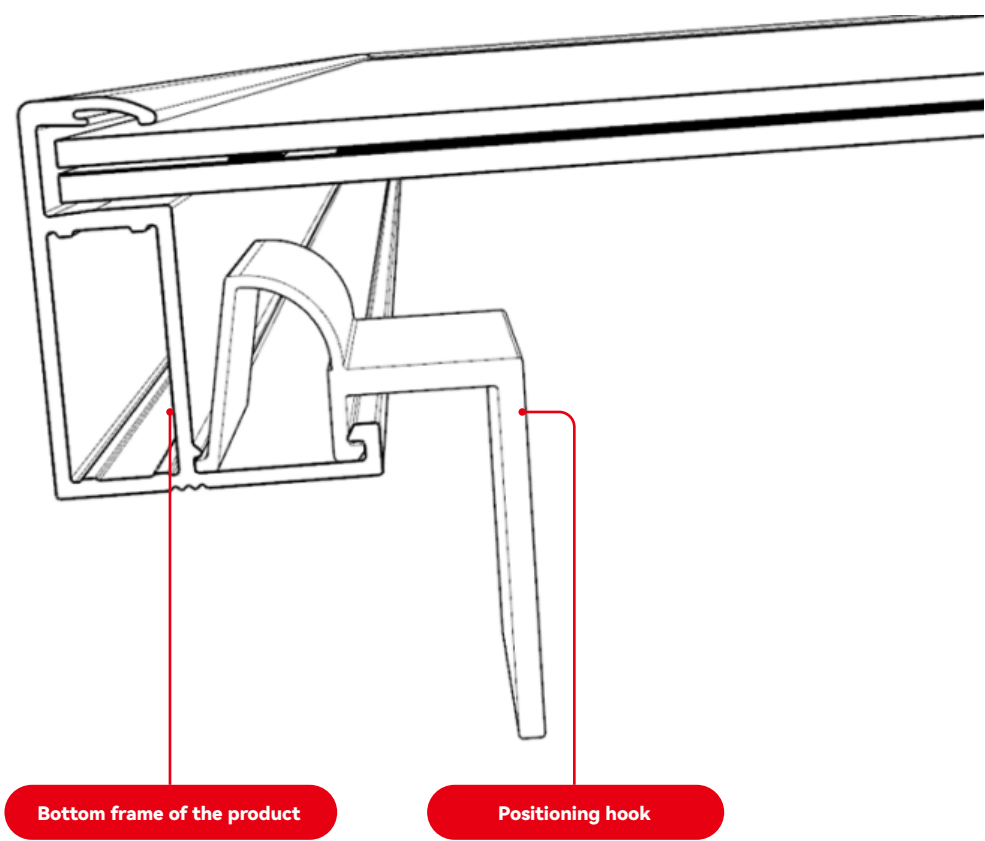
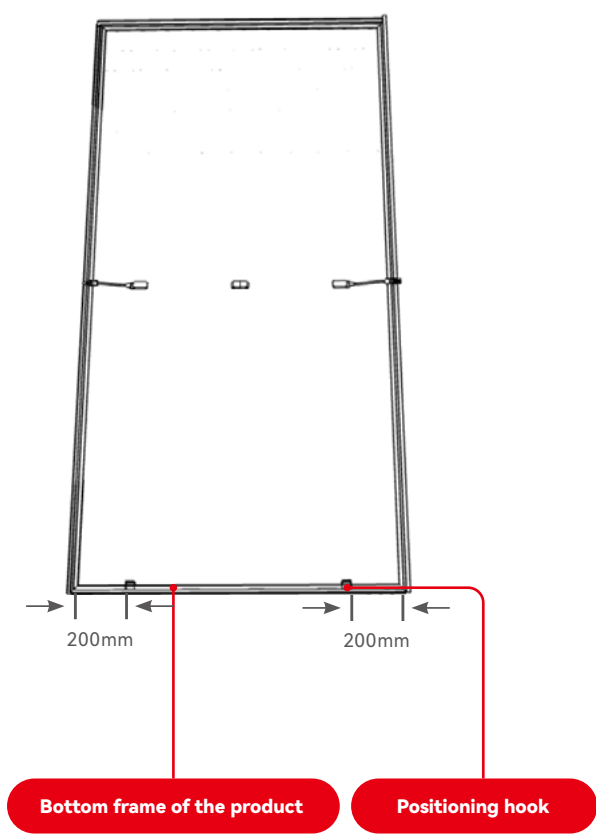

FIGURE 23
FIGURE 24
- Before installation of the second row of the products, install two positioning hooks on the bottom frame of the product. (Figure 23) The distance between two positioning hooks and the right and left frames should be 200mm (Figure 24).